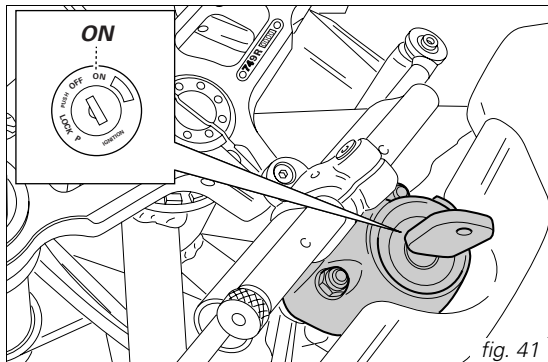

fig. 41
1) Move the ignition key to ON (fig. 41). Check that both the green light N and the red light  on the instrument panel come on.